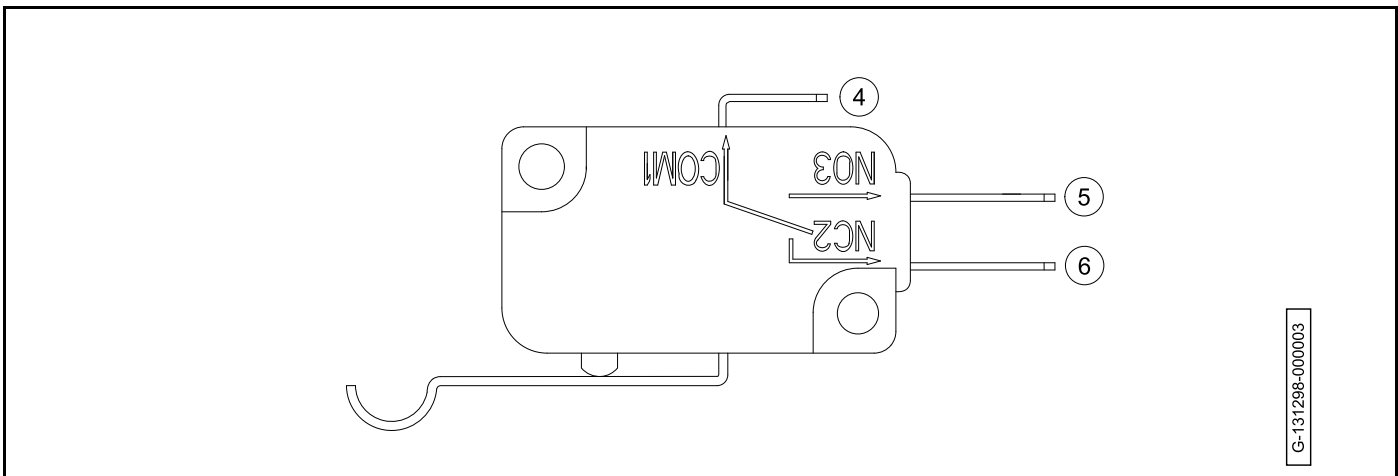

Figure 20-28 Neutral Lockout Limit Switch Terminals
2. Install the washers (2) and nuts (3). Tighten the nuts to 4 in·lb (0.45 N·m).
5. Connect the black/yellow wire to the COM1 terminal (4) (Figure 20-28, Page 20-26).